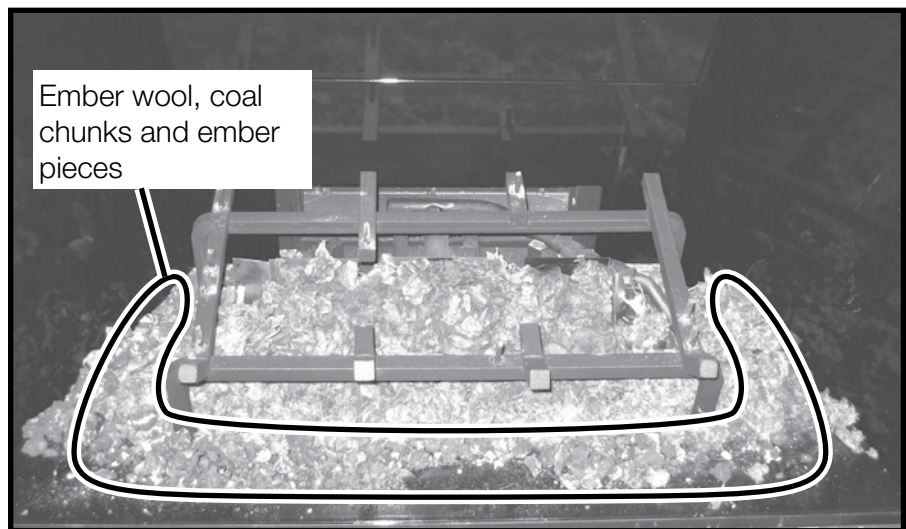

Figure 10: Full distribution of ember, coal chunks and ember pieces.ai
3. Place remaining ember material, coal chunks and small ember material outside of the burner pan as desired to cover-up gas lines and brackets. (Figure 10). **Do not put coal chunks or small ember pieces inside burner pan as this will cause sooting and the burner to malfunction.**